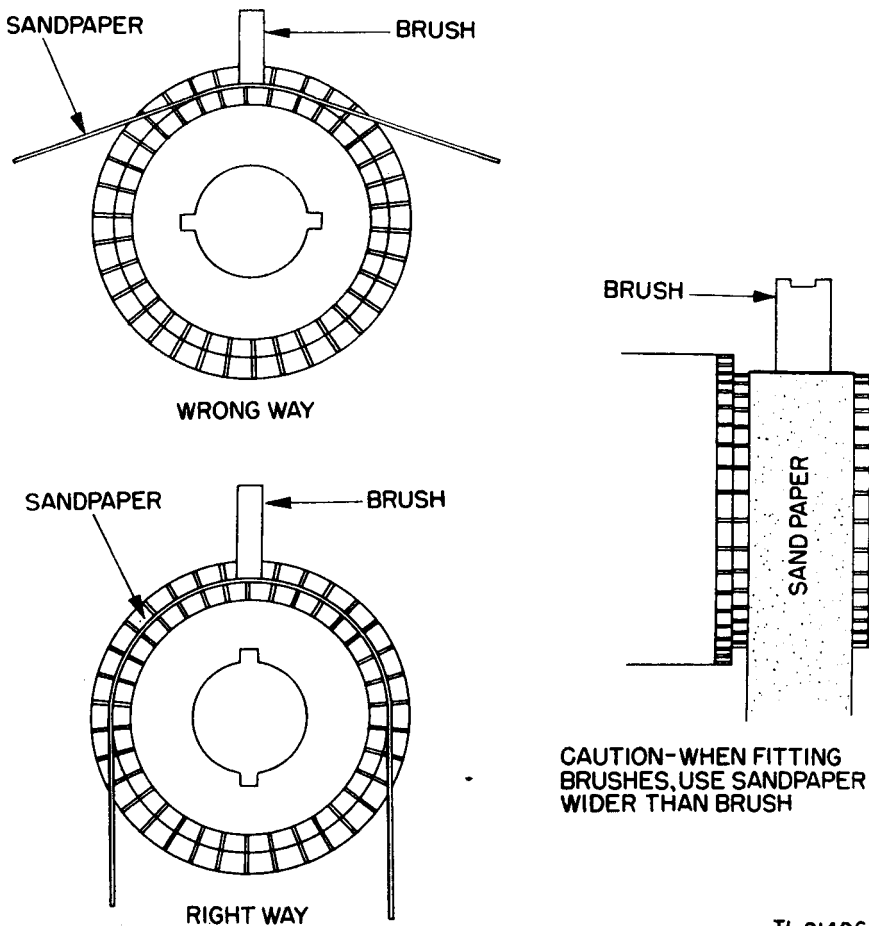

Figure 11. Correct and incorrect methods of fitting a brush.
(1) Cut a strip of #0000 sandpaper slightly wider than the brush.
(2) Place the brush in its holder.
(3) Place the sandpaper under the brush with its *sanded surface next to the brush*. Make sure that the sandpaper contacts at least half of the circumference of the commutator. (See fig. 11.)
(4) Pull the sandpaper in the direction of commutator rotation following the curvature of the commutator.
(5) Lift the brush clear of the sandpaper and return the sandpaper to its original position. Repeat this operation as often as necessary to obtain a satisfactory seat. Do this for all brushes.